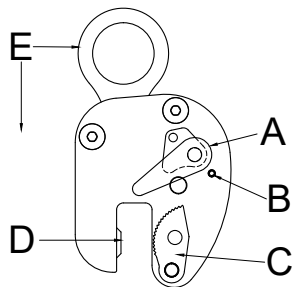
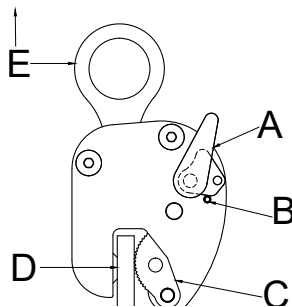

Figure 6: "Locked Open" / Open Position
Figure 7: "Locked Closed"
8. Always ensure the clamp is seated properly on the material to be lifted. Place the gripping pad (D, Fig. 7) against the material when locking the clamp closed to ensure the rotating gripping cam(s) (C, Fig. 7) contact the material in the position they will make the lift.
6. Always ensure the clamp is seated properly on the material to be lifted. Place the gripping pad (D, Fig. 6 & 7) against the material when locking the clamp closed to ensure the rotating gripping cam(s) (C, Fig. 7) contact the material in the position they will make the lift.
4. Place the jaw of the clamp around the material to be lifted. Make sure the clamp is positioned so the edge of the material is 1/8” to 1/4” from the back of jaw opening and the gripping surfaces are in full contact with the material. When lifting from a horizontal position, our unique design allows the operator to load the clamp with the gripping pad (D, Fig. 7) below the plate or on top of the plate.
5. Secure the clamp in the “locked closed” position. Do this by seating the clamp on the material with the gripping pad (D, Fig. 6) against the material and rotating the lock handle (A, Fig. 7) until the lock inside the body is positioned against the stop (B, Fig. 7). The gripping cam(s) (C, Fig. 7) will rotate into the jaw and engage the material at the point where they will bite into the material once the lift is started.
WARNING: Not properly seating the clamp may cause the clamp to slide on the material once the lift begins. Always ensure the grippers are seated properly. Check this by pushing away on the clamp body as you pull back on the lifting shackle (E, Fig. 7) and look to ensure the gripping cam(s) and gripping pad are engaging the material.
3. Upon reaching the material's destination, lower the clamp and material to a secure position until the tension is relieved on the lifting shackle (E, Fig. 6).
4. Once the load is at rest and secured, rotate the lock handle (A, Fig. 6) to the "locked open" position or for VLC & AVLC the open position. This will disengage the clamp from the material and for lock open models will lock the gripping cam(s) (C, Fig. 6) out of the jaw opening to protect the gripping teeth. If the clamp is in a hard to reach position, push in on the lifting shackle (E, Fig. 6) after the lock handle (A, Fig. 6) is released to help facilitate locking the clamp open.